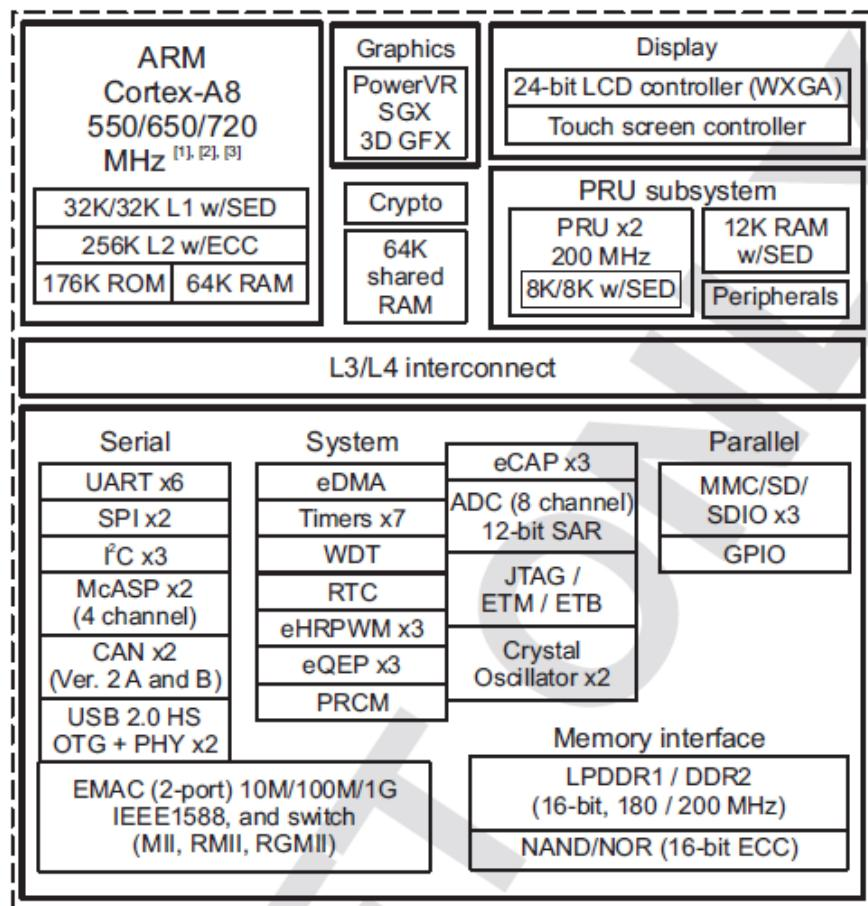

Figure 29 Sitara AM3358BZCZ Block Diagram
**Figure 29** is a high level block diagram of the processor. For more information on the processor, go to <http://www.ti.com/product/am3358>.